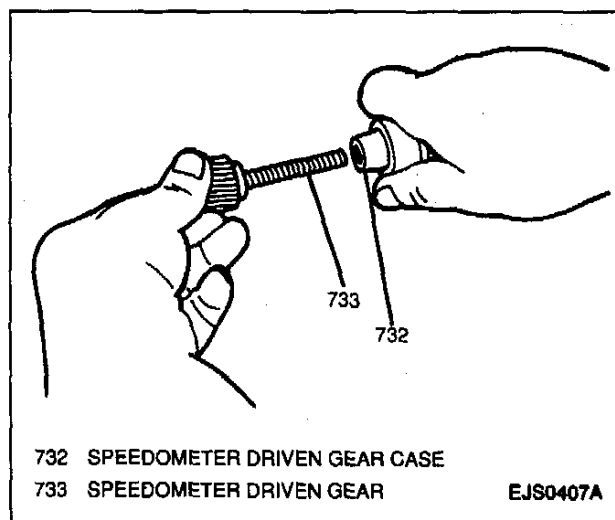

Figure 49—Removing Speedometer Driven Gear from Speedometer Driven Gear Case (3L30, 3-Speed)
5. Speedometer driven gear from speedometer driven gear case (Figure 49).
6. Speedometer cable to speedometer driven gear case (Figure 49).